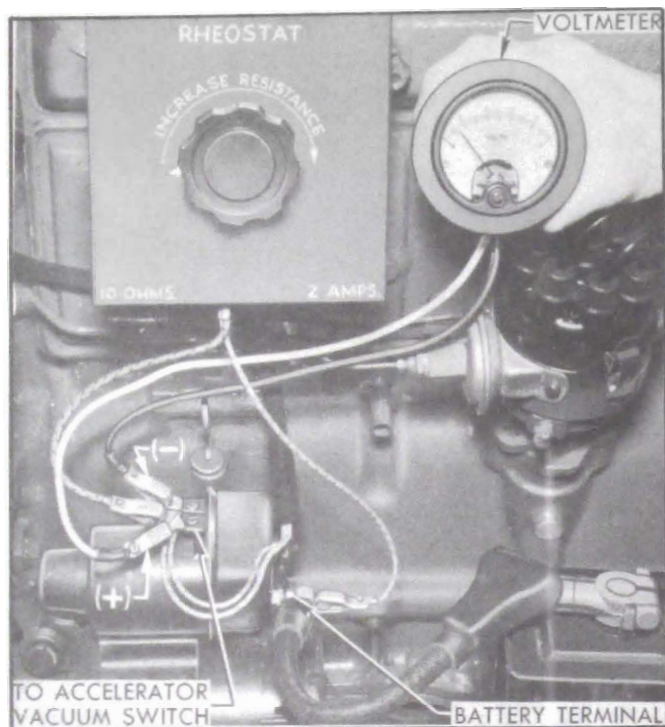

Figure 10-57—Connections for Testing Cut-in and Cut-out Voltages of Solenoid Switch Relay
2. Set rheostat to provide full resistance. Connect one lead of rheostat to battery terminal on solenoid switch, and connect other lead to terminal on solenoid switch relay which has white wire with black parallel tracers connected to it. This wire is connected to the accelerator vacuum switch. See figure 10-57.